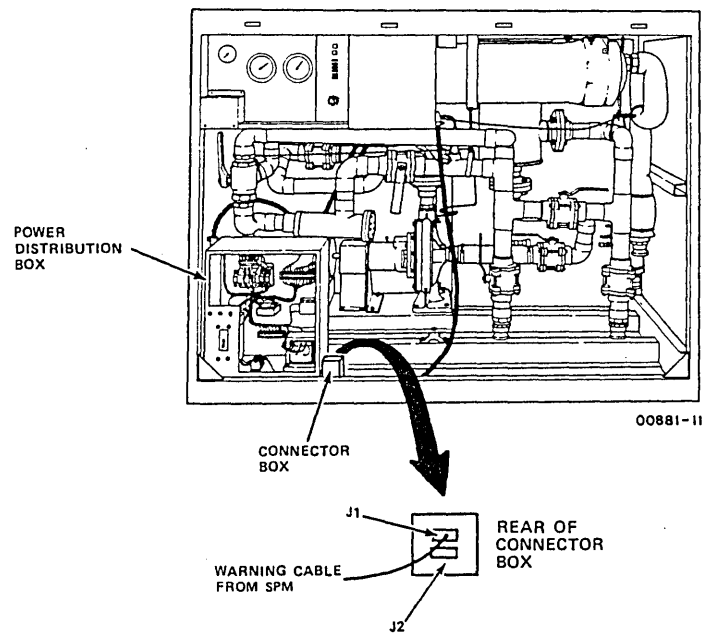

Figure 4-14. SPM Cable Connections to Water Cooling Unit
- ___ 11. Remove cover from interface assembly. This applies to 102 L/min (27 gal/min) water cooling unit only (figure 4-14).
- ___ 15. Connect cable from SPM J2 to J1 the bottom of the interface box in water cooling unit (figure 4-14).